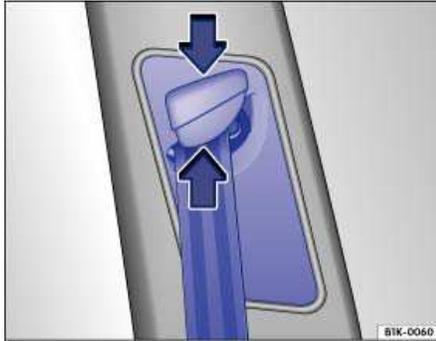

Fig. 69 Next to the front seats: Safety belt height adjuster.
- Pinch the safety belt attachment together as indicated by the arrows and hold ⇒ fig. 69.